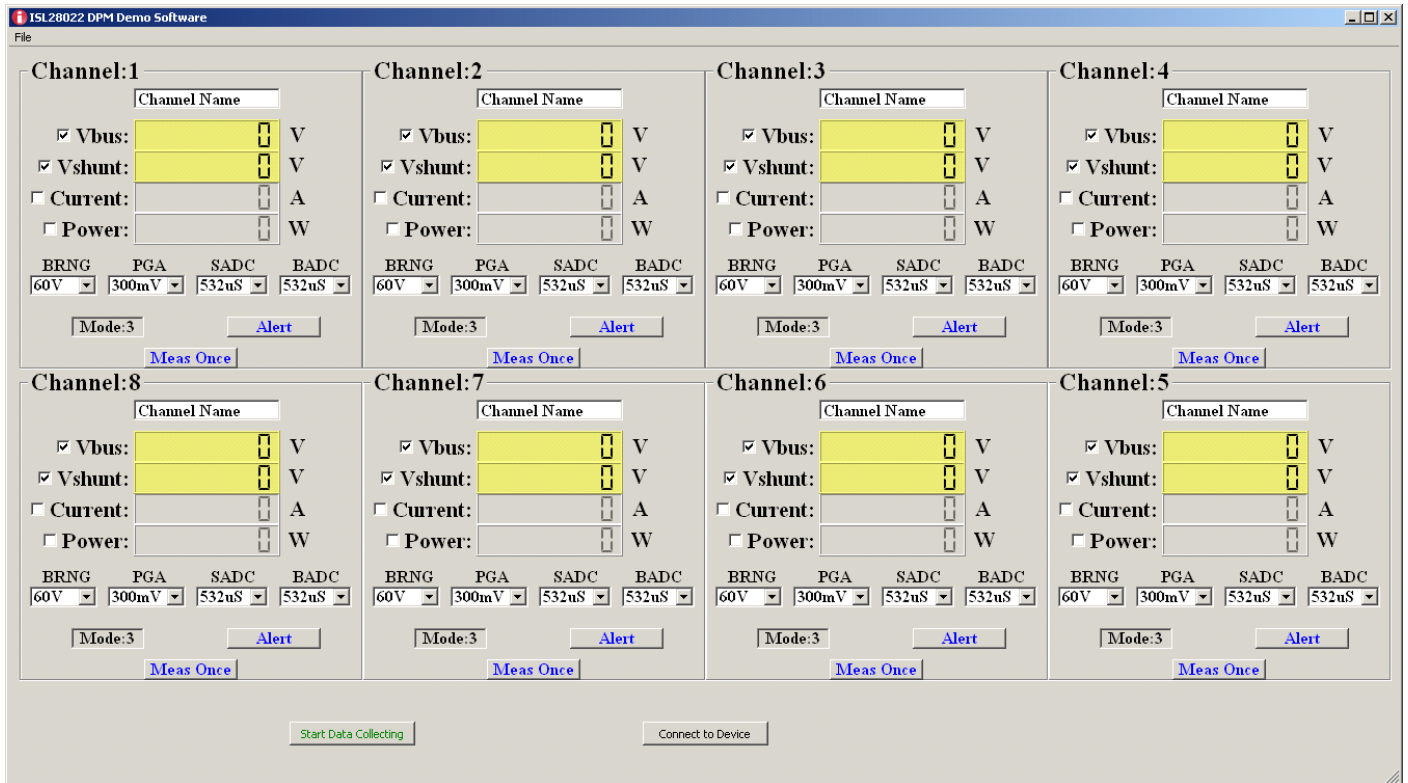

FIGURE 3. ISL28022 DPM DEMO SOFTWARE WINDOW
- To run the program, go to the "Start" menu and choose the isl28022\_DpmMultiSiteEvalBrd folder, and then choose the isl28022\_DpmMultiSiteEvalBrd icon. Once clicked, the demo software window should appear as illustrated in Figure 3.
The file name entered in the dialog box is the base name for all files saved. A unique named file is generated for each measured parameter (Vbus, Vshunt, Current, Power) across 8 channels. The software only saves data to a file for each measured parameter selected. If a measured parameter is not selected across 8 channels, then a file with the non-selected measured parameter is not generated. For example, power and current files would not be generated for the configuration of the DPM window shown in Figure 3.